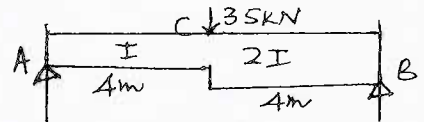

Fig.Q2(b)
- b. Using conjugate beam method, find the deflection at point C and slope at A for the simply supported beam loaded as shown Fig.Q2(b). (10 Marks)